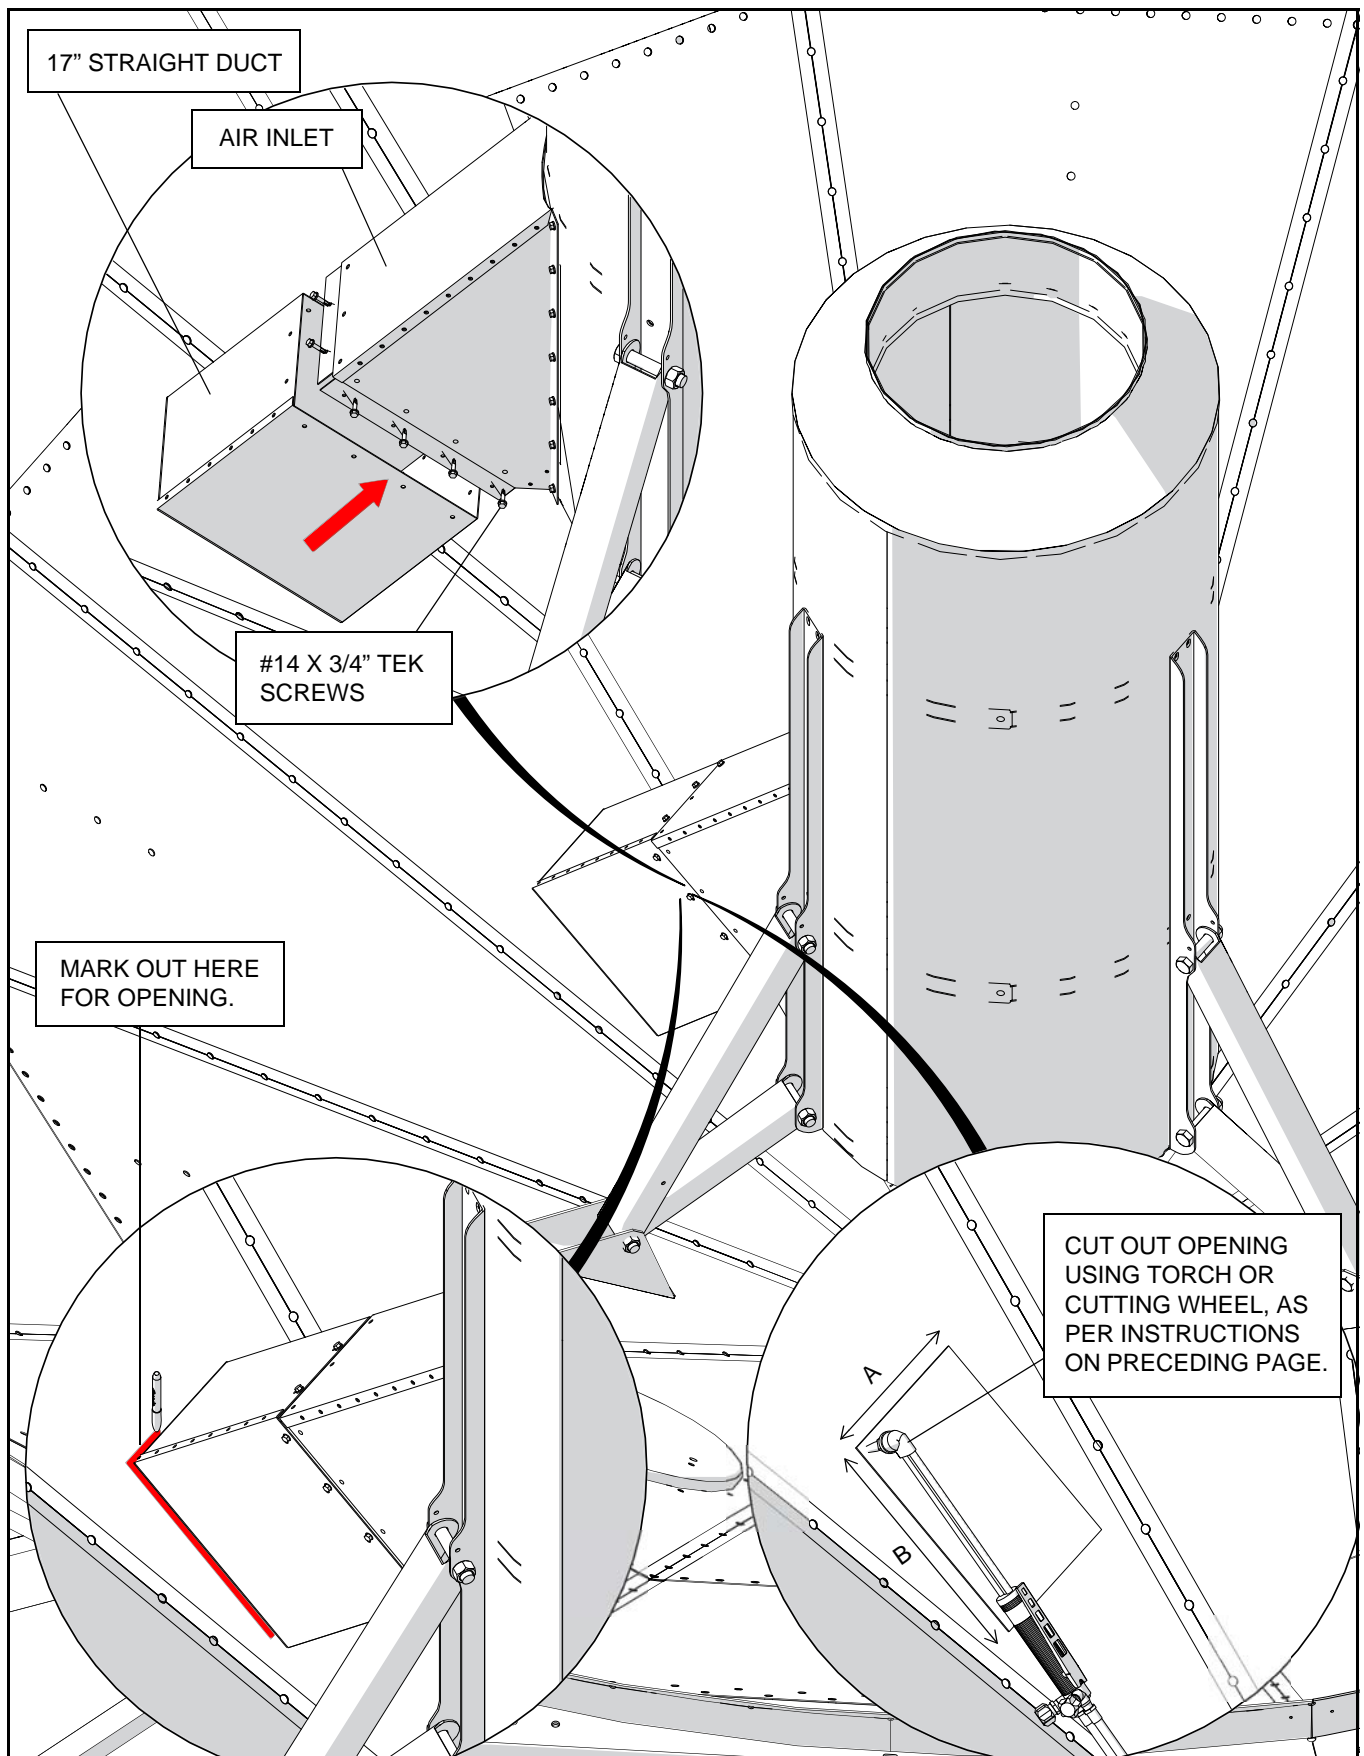

Figure 3.3
4. Secure 17" straight duct to air inlet with twelve #14 x 3/4" tek screws as shown in Figure 3.3. Use four screws on each side and two screws on both the top and bottom of duct.
6. Mark outline of outside of straight duct on hopper cone for inlet opening as shown in Figure 3.3.
**Important:** *Make cut inside the marked line to help keep the opening as clean as possible. Ensure that the minimum size of hole is 8-7/8" x 13-7/8", and that the maximum size is no larger than 9" x 14". This means dimension A in Figure 3.3 will be between 8-7/8" and 9" long and dimension B in Figure 3.3 will be between 13-7/8" and 14" long.*